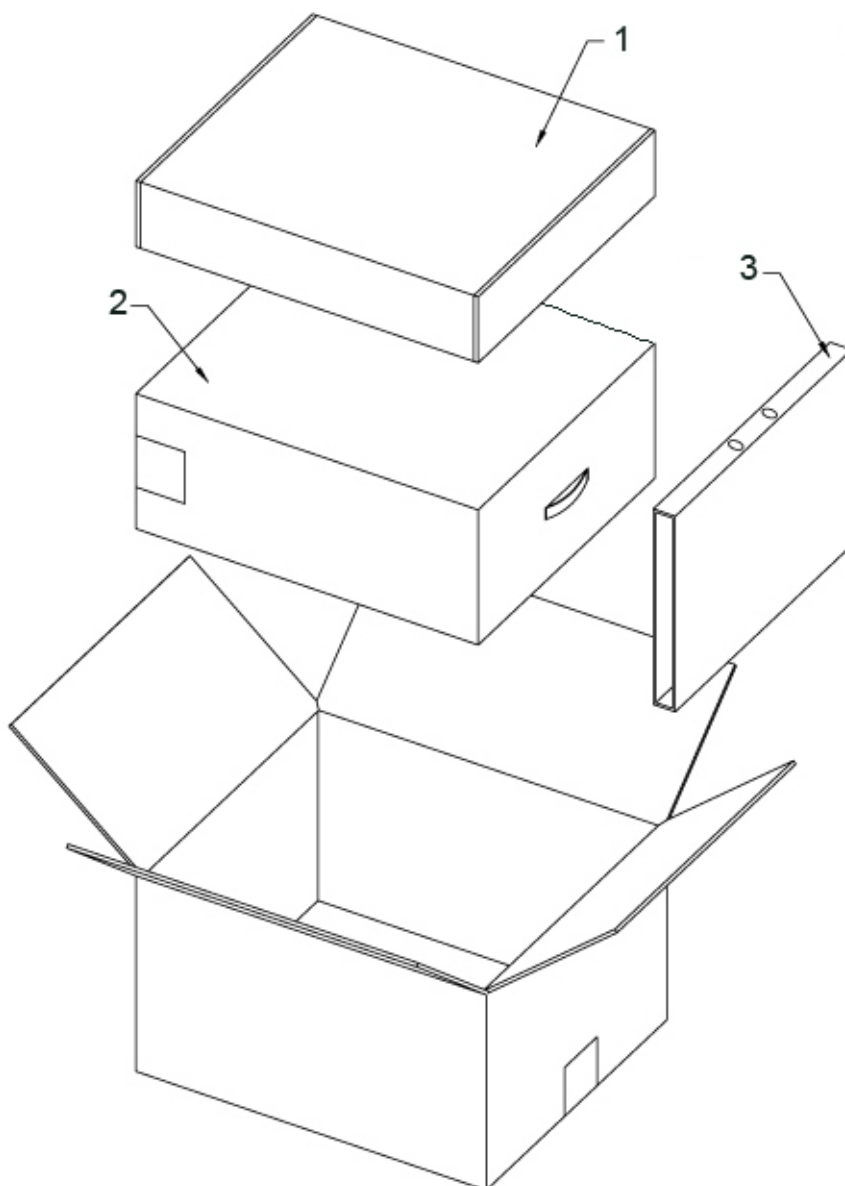

Figure 3-4 Unpacking Venue 40
- 3.) Take out the paper pad on the side. Refer to Figure 3-4 on page 3-5
- 4.) Take out the Accessories Package and Console Package. Refer to Figure 3-4 on page 3-5